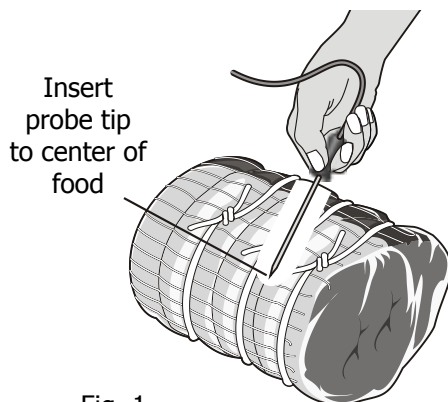

Fig. 1
- Always insert the probe so that the probe tip rests inside at the center of the thickest part of meat or food (See Fig. 1). For best results, do not allow the probe temperature sensor to contact bone, fat, gristle or the cookware.